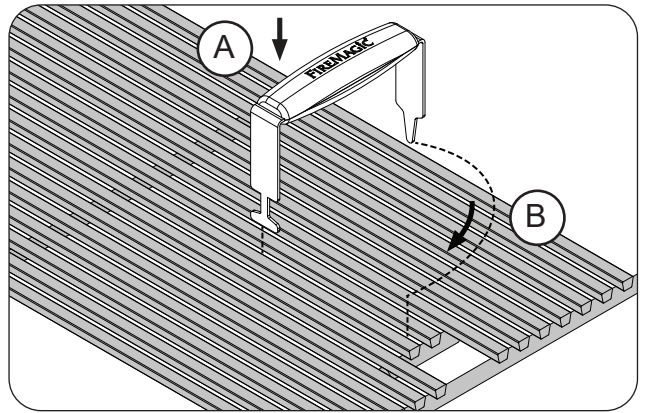
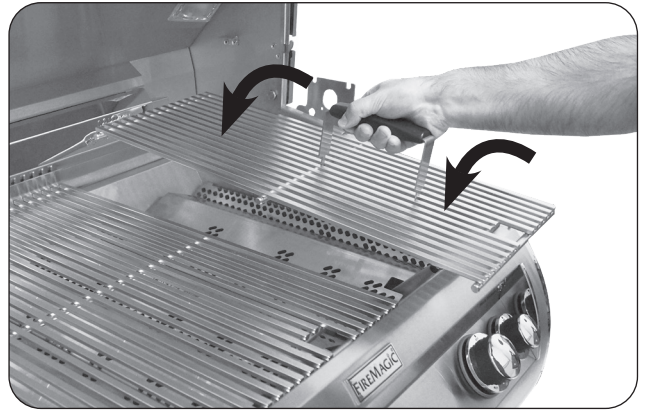

Fig. 27-1 Install cooking grids
Fig. 27-2 Install cooking grids
1. With the prongs facing downward, insert the notched-end of the lifter between two grid rods, then rotate, as shown in Fig. 27-1, A & B.
2. Insert the rear pointed-end of the lifter between the same two rods (Fig. 27-1, B) and carefully lift the cooking grid and place onto the front and rear grid rests of the grill (see Fig. 27-2). Repeat for all other cooking grids.